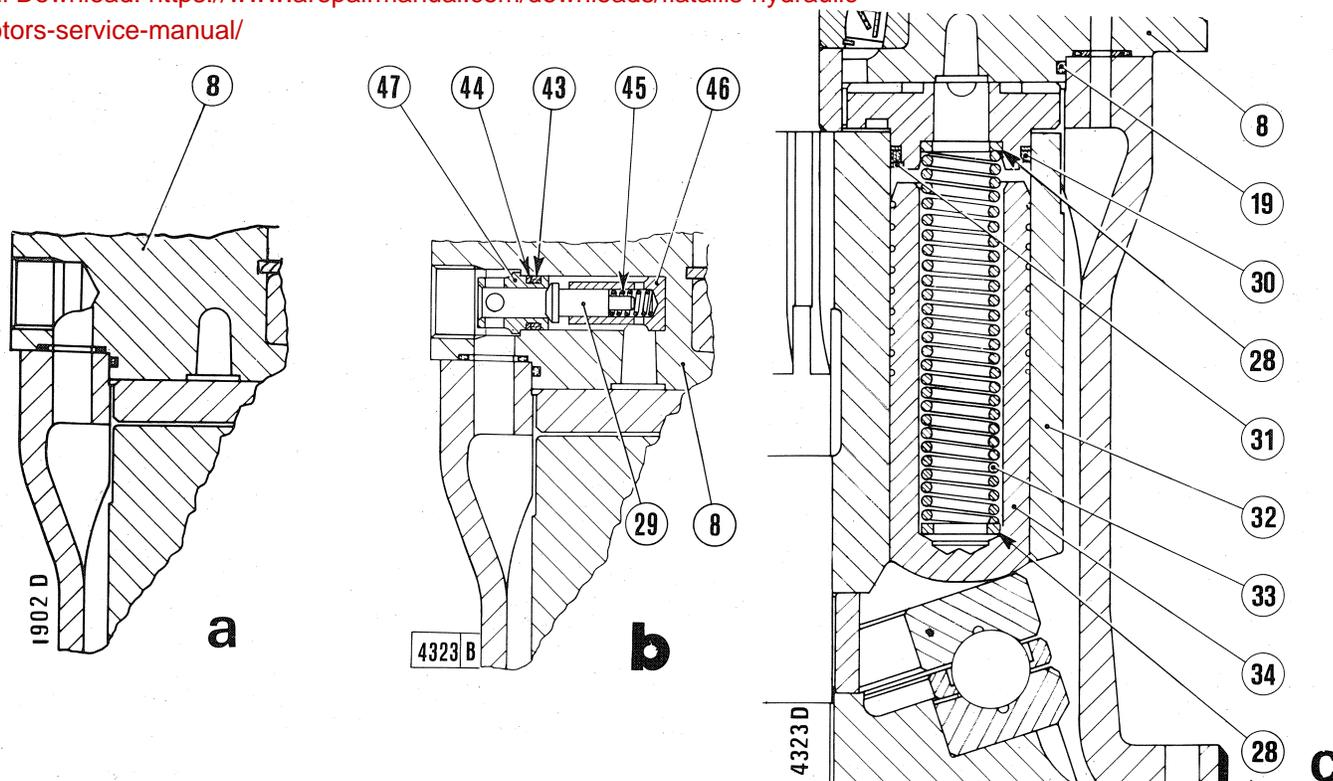

Fig. 2-11 - Section through hydraulic motor (MI2F or MI4F) with piston (34) (pre-mod configuration).
- remove flange and shims (S₁, fig. 2-11);
- remove cover (2,fig.2-12) with dished springs (23,fig.2-11) and relevant plates (25) (to operate on springs (23) remove capscrew (C₃));
- remove retaining ring (24) using pliers 75300240;
- remove capscrews (C₂) securing drum (2), spacer (5) and rear end plate to the motor housing;
- using lifting chain 75291517 (A,fig.2-13) remove drum (1) with piston (4,fig.2-11);
NOTE - It is possible to remove the brake drum (2,fig.2-11) complete with cover (3), piston (4) and dished springs (23) by proceeding as follows:
- remove capscrews (C₂) securing brake drum (2) to motor housing;
- remove pressure plate (13,fig. 2-11) and disc carrier spacer (5);
- remove fixed discs (6) and drive discs (7);
- remove nut (15) and withdraw drive disc support gear (12) from pinion shaft;
In addition to the inspections recommended for hydraulic motor without lockup brake, inspect fixed discs (6,fig.2-11) and drive discs (7) for wear (wear limits are indicated in table) and check O-rings (16 and 17) for condition.